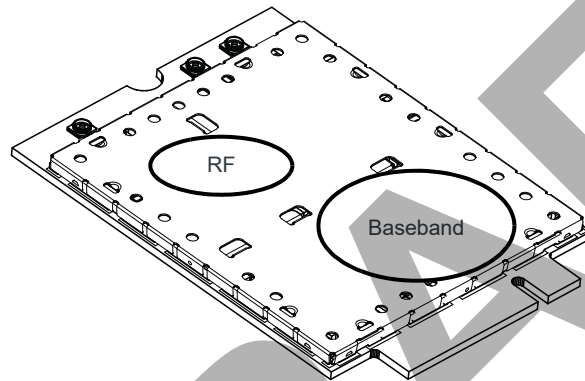

Figure 6-1: Shield Locations (Top View)
- Monitor temperature at all shield locations. Attach thermocouples to the areas indicated in Figure 6-1 on page 49 (RF, Baseband).